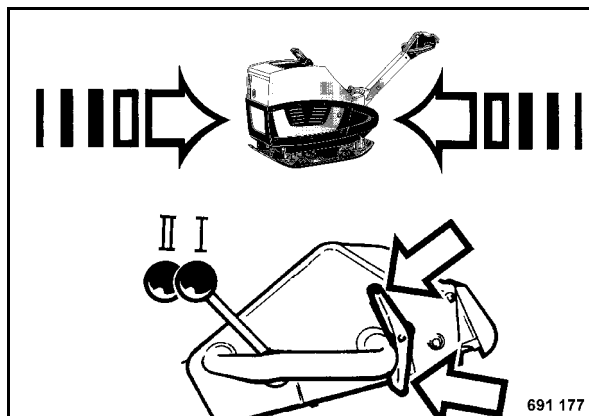

Fig. 35
- Operate the travel lever (tip switch) (Fig. 35), until the vibratory plate vibrates on the spot.